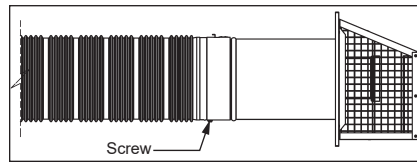
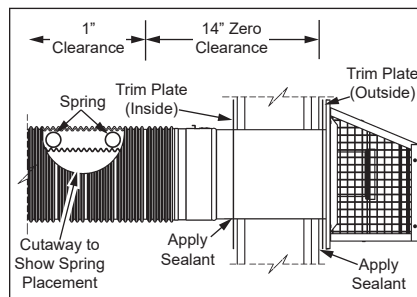

Figure 8 - Completed Vent Connection
Figure 9 - Trim Plate Install
Cut a clearance hole, approximately 7" in diameter, through the exterior wall for the vent assembly. The recommended height is 64" for 40 gallon models, 73" for 50 gallon models and 74" for 50 gallon Hi-Input models, as measured from the hole center to bottom of water heater. Where the wall is combustible and the wall thickness is over 14", a 1" clearance to combustible surfaces around the vent terminal is needed. The first 14" is zero clearance (see Figure 9 on page 10).
The vent piping and the vent termination hood are to be connected as shown in Figure 8. Maintain vent clearances to combustibles as shown in Figure 9.
The completed connection is shown in Figure 8.
Some models are supplied with trim plates which may be used to cover the holes in the wall (see "Completed Installation" on page 2 and Figure 9). Slide one trim plate (if supplied) over the outer corrugated tube, then insert the outer corrugated tube through the clearance hole from exterior wall. Secure the trim plate to the exterior wall, then secure the vent terminal to the exterior wall with 4 screw anchors (included) appropriate for the type of wall construction. Caulk the junction of the vent terminal base plate and the exterior wall with exterior type sealant (not included). Slide the trim plate (inside) over the outer corrugated tube and fasten the trim plate to the interior wall. Caulk the junction of the outer corrugated tube and the trim plate (inside) with suitable sealant. The vent termination hood attaches to the vent piping as shown in Figure 8.
3. Minimum vent pipe clearance to combustibles is 1" (see Figure 9).